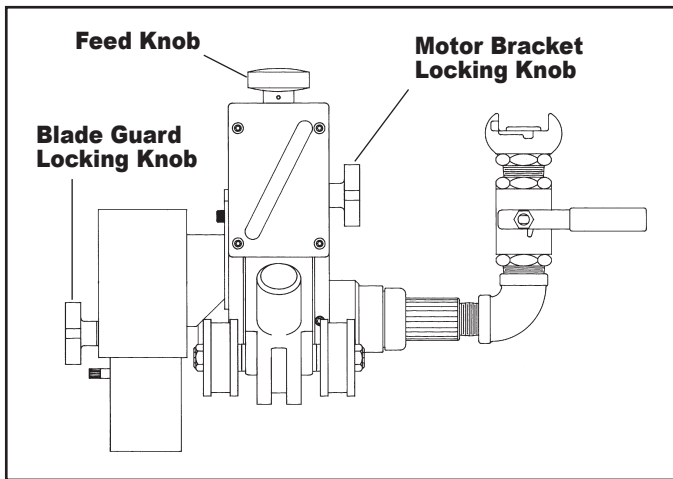

FIG. 4
1. Loosen motor bracket locking knob. (Fig. 4)
2. Retract motor bracket to uppermost position, by turning feed knob counterclockwise. (Fig. 4)
2. Turn cutter feed knob clockwise. (Fig.4) Lower motor and cutter close to, but not touching the pipe. Motor bracket locking knob should be tight, yet allow the bracket to slide.
- 2.* Knowing the thickness of pipe to be cut, turn the feed knob clockwise, (Fig. 4) until the pointer indicates the desired depth of cutter. Allow at least $\frac{1}{4}$ " of blade beyond depth of cut.
*Exception to this would be if the bevel cutter was being used for plastic, then the cutter would be engaged until the bevel cutter began cutting. At this point the depth gage pointer could be used to determine amount of bevel. Full engagement produces a $\frac{15}{16}$ " bevel. (Fig. 4)
3. Tighten motor bracket locking knob. (Fig. 4)
4. Tighten blade guard locking knob approximately 1/8" from pipe. (Fig. 4)